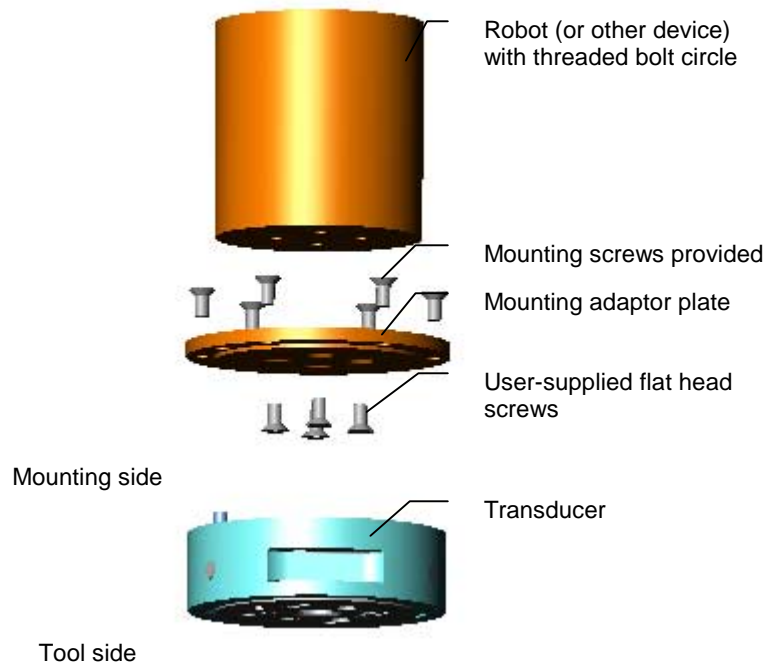

Figure 2.1—Attaching the transducer with the mounting adaptor plate
- Machine the mounting adaptor plate for attaching to your robot (or other device). Mounting adaptor plate dimensions are shown in Appendix B, Mechanical Layout [see *Figure 2.1*]. **All user-supplied screws must be flush with the inside of the mounting adaptor to ensure proper clearance for the electronics inside the transducer.**